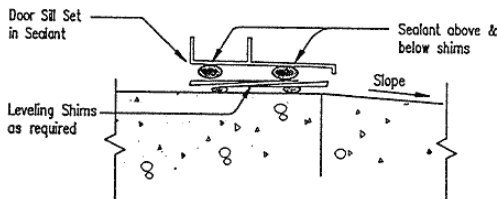

Fig. 3c. Concrete or Wood Sub-Floor with Shims
5.5.2 Depending on the size and weight of the door and the opening conditions, shim blocks may be required under the sill to maintain straight and level condition and to prevent rotation (See Figure 3c). Consult manufacturer's recommendations.